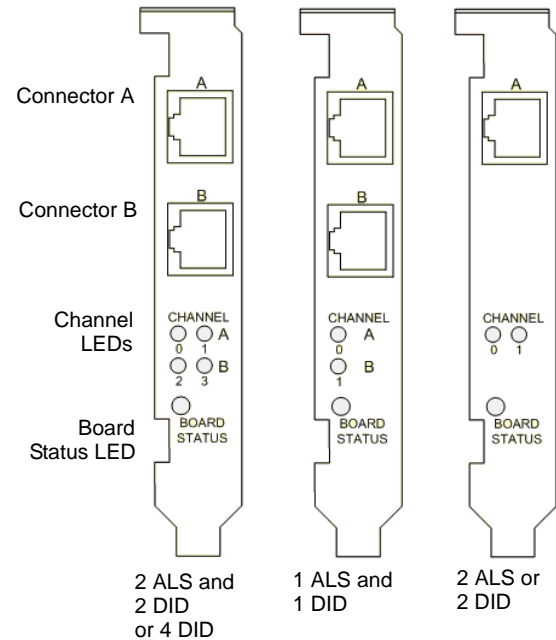
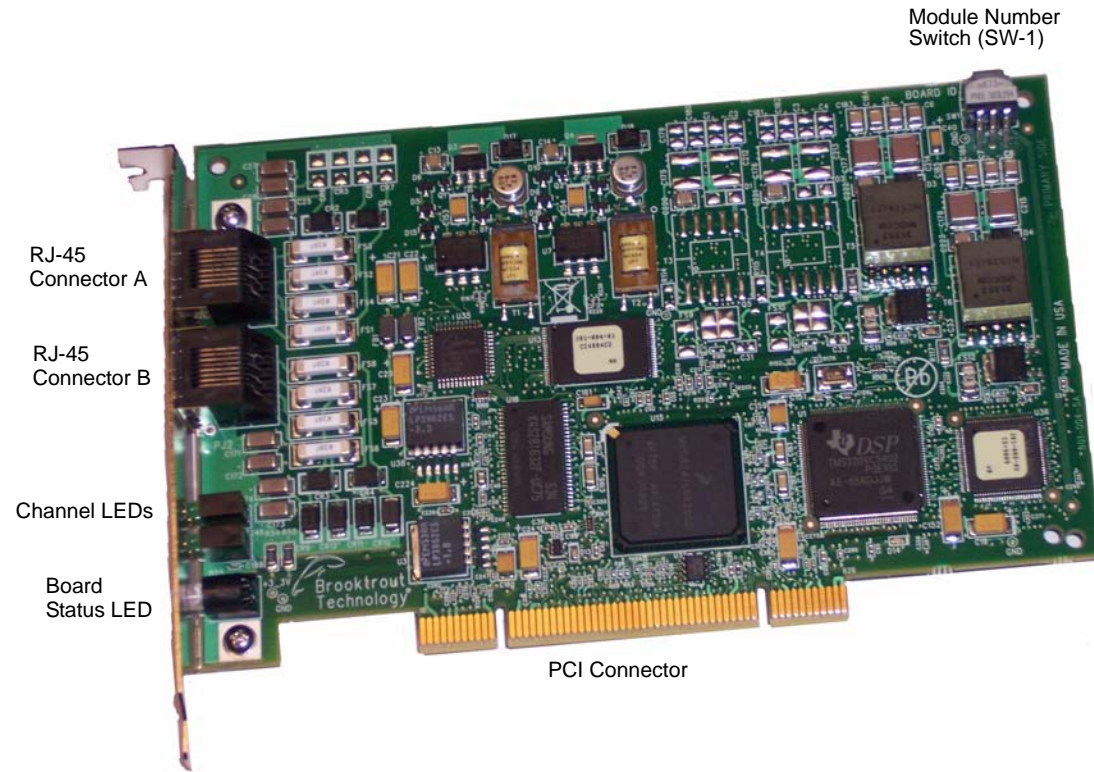

Figure 3. End Panel Connector and LEDs
Figure 4. Dialogic® Brooktrout® TR1034 DID/DID & Loop Start PCI Fax Board
Use the SW-1 rotary switch to set a unique module number for each board. See Figure 4 for the switch location. Select a number from 2 - F on the rotary switch. Settings 0 and 1 are reserved and cannot be used.
1. Plug one end of the cable into the A or B RJ-45 telephone connector on the board (see Figure 3 and Figure 4 to locate connectors).
The LEDs on the mounting bracket provide information about the status of the different systems on the board. To identify and locate these LEDs, see Figure 3.